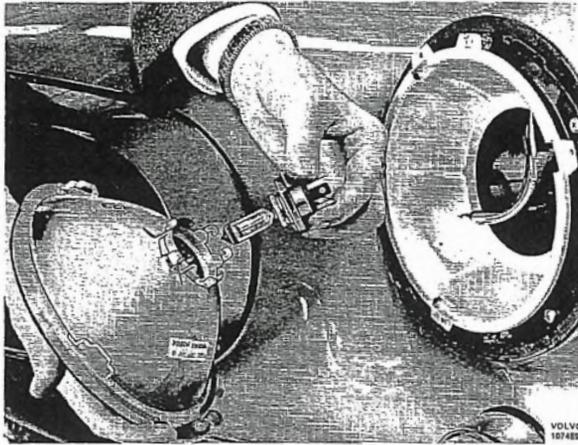

Fig. 3-87. Fitting bulb
3. Fit the new bulb, see Fig. 3-87. Do not touch the bulb glass with your fingers. Make sure that the bulb is fitted properly in the insert. The small nibs on the bulb collar should fit in the insert jacket.